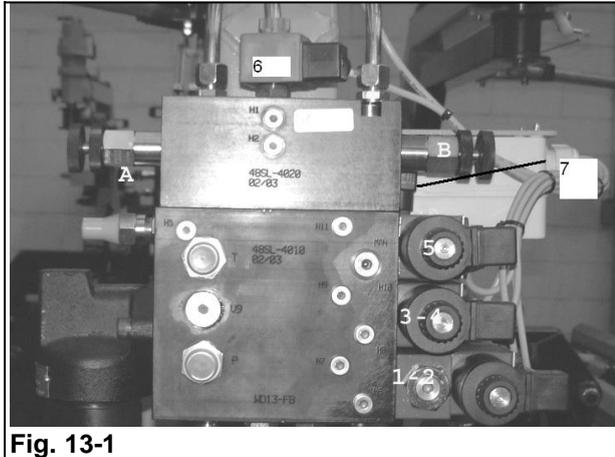

Fig. 13-1
- 8.1 Start the tractor and let it run at approx. 1000 revolutions per minute. Lift the machine clear of the ground. The oil flow to the machine is adjusted by two wheels which are situated on the front the machines valve block. (See A-B Fig. 13-1)
- 8.2 The Wheel (See B Fig. 13-1) too the right is used to adjust speed of the wrapping arm.
Use a black marker to mark a line on the middle of the film wrapped on the bale. Adjust the control wheel (See A Fig. 13-1) for roller speed, so that the marker line is just covered. Approx. 52-53% is the ideal overlap. (See fig. 9-2).